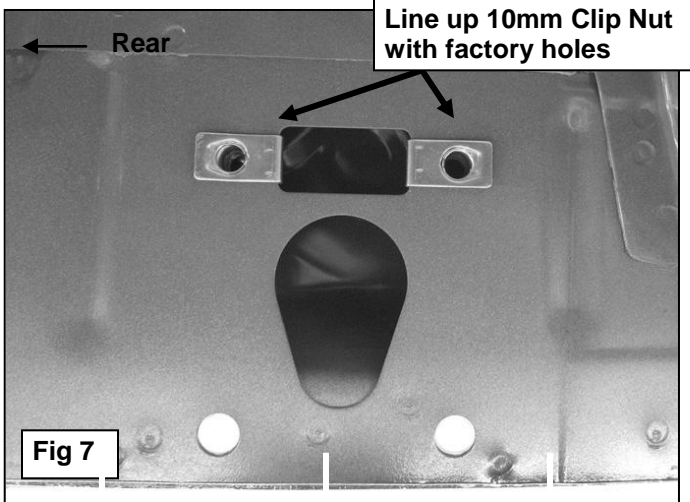

Fig 7
4. Move to the last mounting location at the rear of the cab. Repeat **Steps 2 – 3** for Rear Mounting Bracket installation, **(Figures 6 & 7)**. **NOTE:** Each rear mounting location is made up of a rectangular hole with a round hole on each side and two holes through pinch weld, **(Figure 7)**.